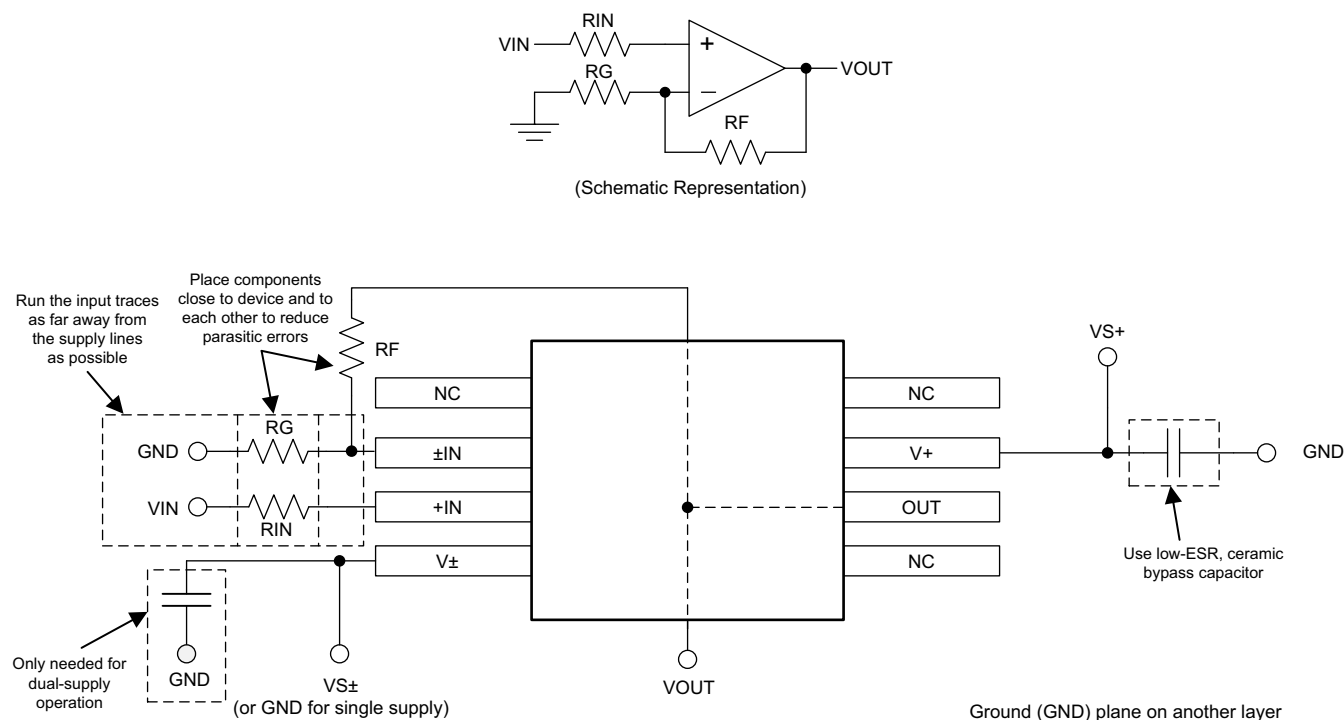

Figure 43. Operational Amplifier Board Layout for Noninverting Configuration
- Place the external components as close to the device as possible. Keeping RF and RG close to the inverting input minimizes parasitic capacitance, as shown in Figure 43.